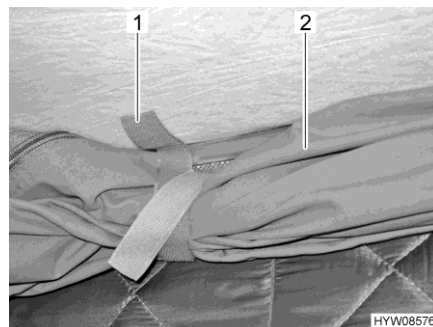

Fig. 50 Retaining clips
- Undo the retaining clips (Fig. 50,1) on the rolled-up canvas (Fig. 50,2).
- Roll up the canvas (Fig. 50,2) and secure with the retaining clips (Fig. 50,1).